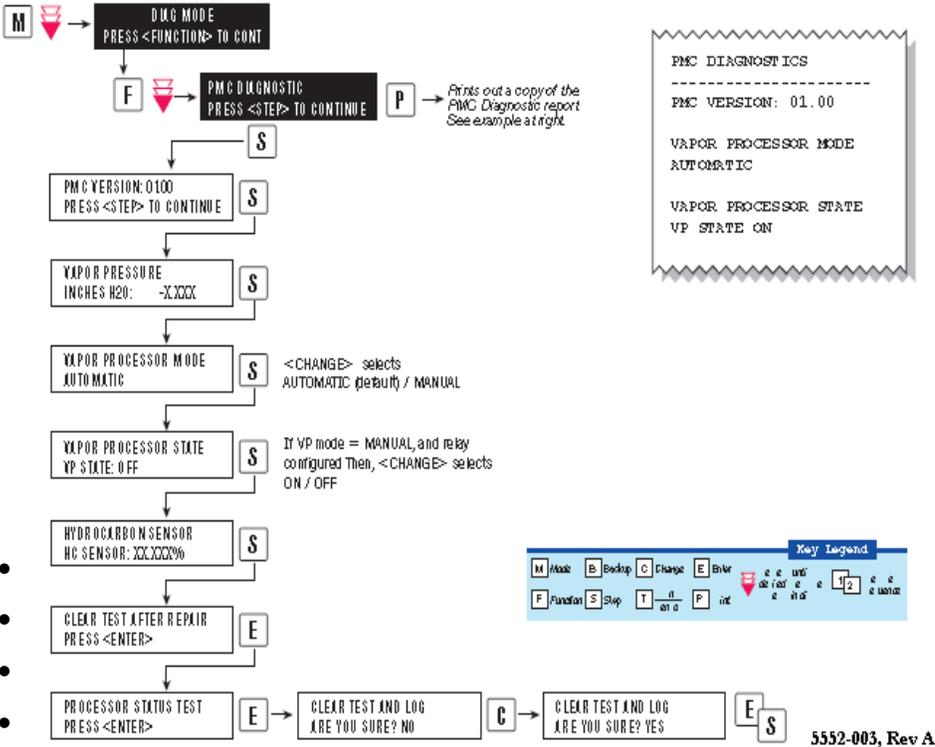
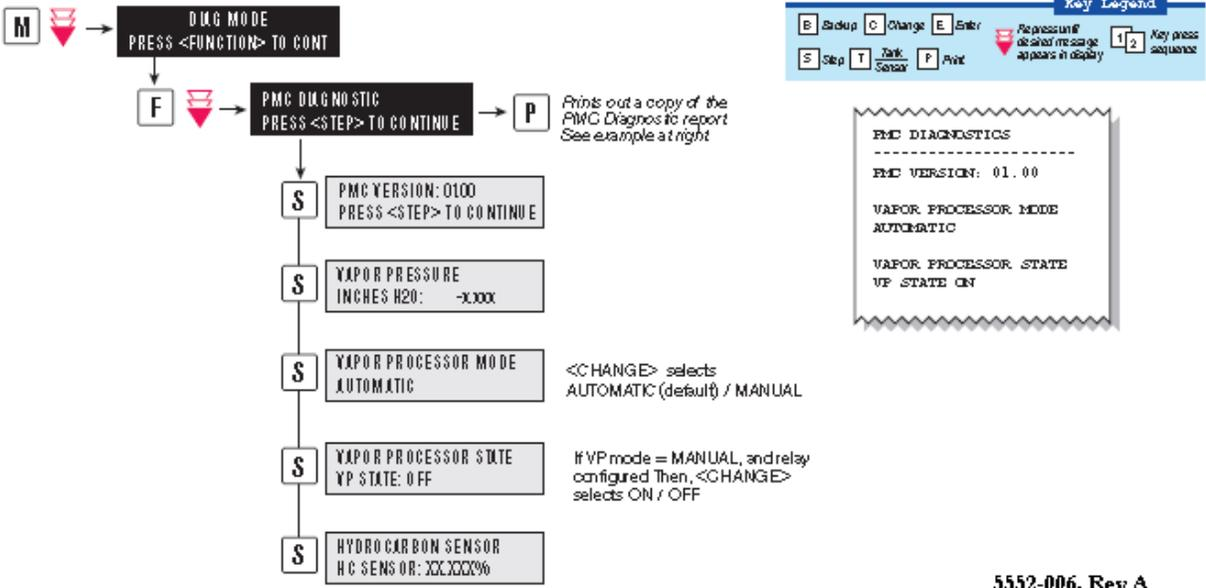

Figure 12: PMC Diagnostic Menu with PMC Software
Figure 13: PMC Diagnostic with ISD Software
- Follow the steps at the TLS console to put the TLS-350 in the Manual “OFF” Mode, as shown in Figure 12: Page 15-39 for the PMC Diagnostic Menu and Figure 13: Page 15-40 for the ISD Diagnostic Menu.
- Put the TLS-350 in the Manual OFF as shown in the Diagnostic Menus (see Figure 12: Page 15-39 or Figure 13: Page 15-40).
- Put the *Processor* in the manual ON Mode at the TLS as shown in the diagnostic menu in see Figure 12: Page 15-39 or Figure 13: Page 15-40.